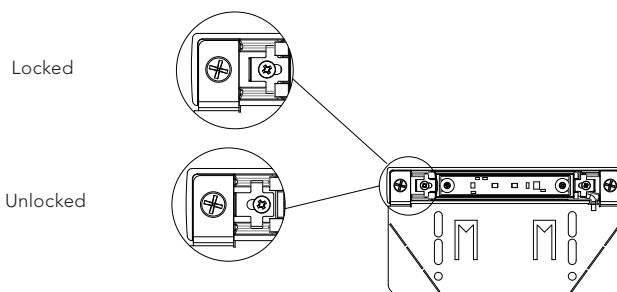

Fig. 1
2. If tamper-proof clips are locked, loosen screws and slide clips open. The fixture is shipped from factory with tamper-proof clips in locked position. Release clips prior to installation/replacement if desired. (Fig. 1)